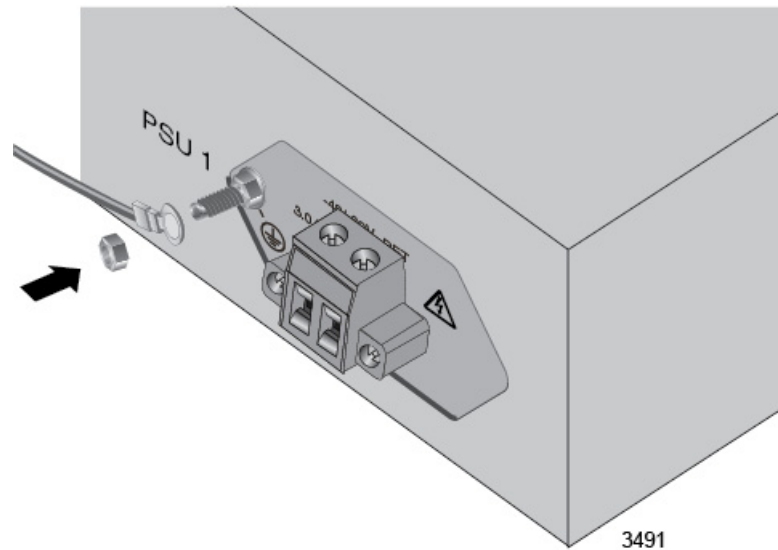

Figure 32. Installing the Grounding Wire
4. Attach the grounding lug and wire to the grounding post and secure them with the nut removed in Step 3 and a 7mm wrench. Allied Telesis recommends tightening the nut to 15 in-lbs. Refer to Figure 32 on page 81.